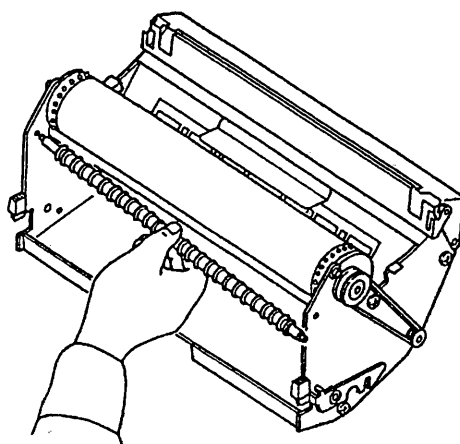

Figure 6.1.2
- 3) Remove the chart pressure roller. A spring mechanism is built into the left end of the roller. Push the roller to the left and remove it (see Figure 6.1.2).